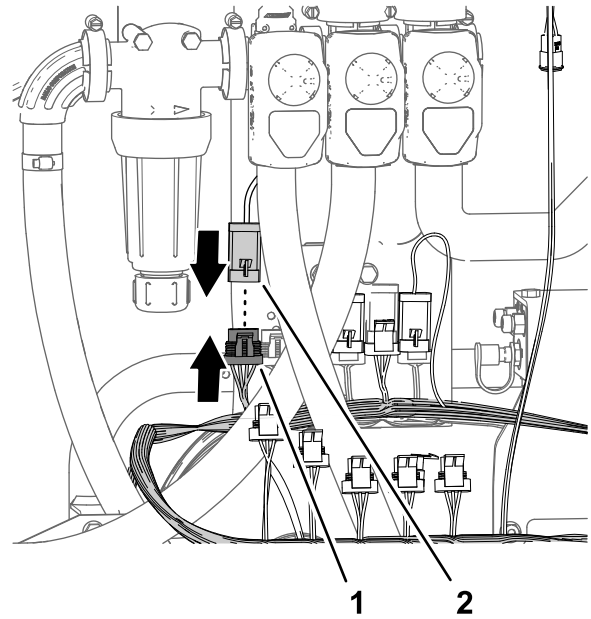

Figure 90
4. Connect the 4-pin connector of the actuator for the rate valve into the 4-socket connector of the 89 cm (35 inch) kit sprayer-harness branch labeled RATE VALVE (Figure 90).